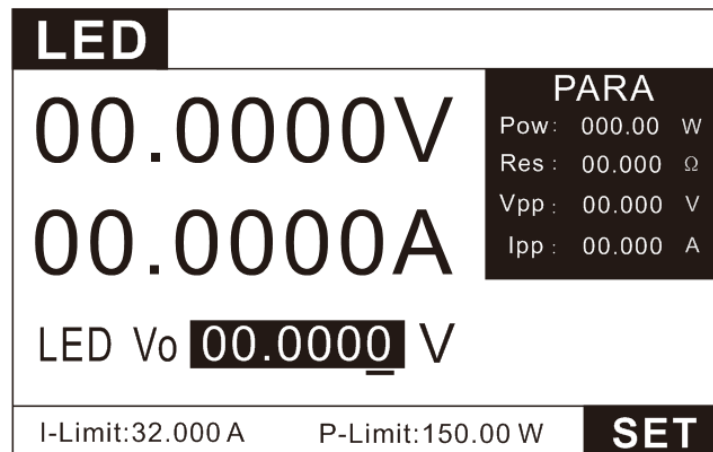

Figure 3.26 LED mode testing page
1. Press the key **MODE** to enter the mode selection page, press the up and down keys to select LED, and press the key **ENTER** to enter the LED test interface, as shown in Figure 3.26.
2. In Figure 3.26, press the key **SET** to enter the setting interface, as shown in Figure 3.25, set  $V_o=34.4\text{V}$ ,  $I_o=0.35\text{A}$ ,  $R_f=0.173$ . Then  $R_f$  is calculated as follows: